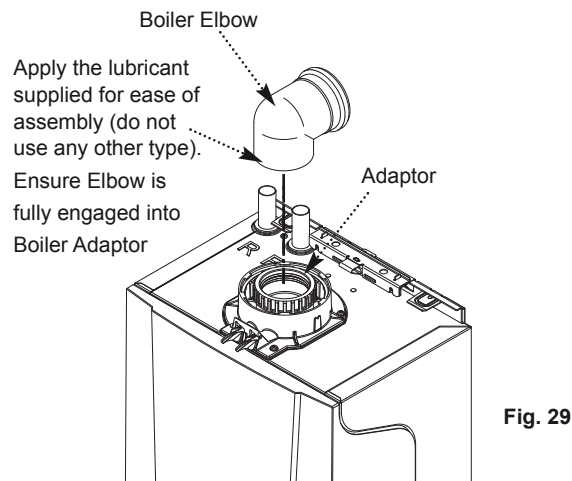

Fig. 29
11. Insert the flue through the hole in the wall. Fit the elbow to the boiler adaptor, ensuring that it is pushed fully in (Fig. 29).